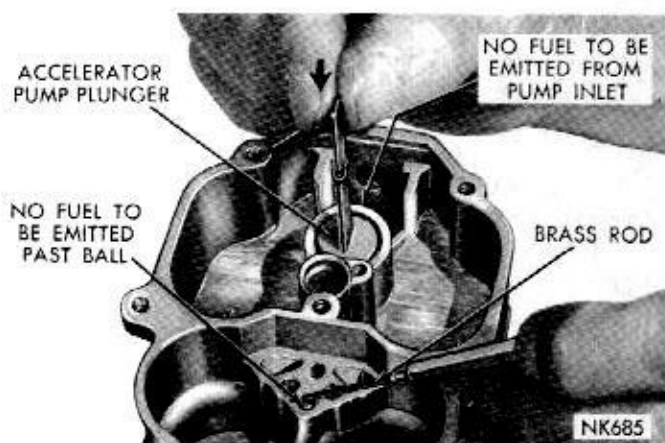

Fig. 10—Testing Accelerator Pump Intake and Discharge Check Balls
(3) Pour clean gasoline into carburetor bowl, approximately 1/2 inch deep. Remove pump plunger from jar of gasoline and slide down into pump cylinder. Raise plunger and press lightly on plunger shaft to expel air from pump passage.
(4) Using a small clean brass rod, hold discharge check ball down firmly on its seat. Again raise plunger and press downward. No fuel should be emitted from either intake or discharge passage, (Fig. 10).